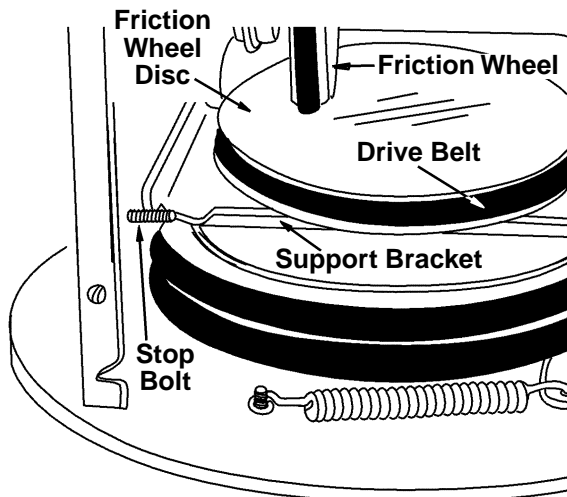

Figure 22
Lubricate the sprocket shaft with good all-weather multi-purpose light grease at least once a season or after every 25 hours of operation. Refer to figure 22.
7. Back out the stop bolt to allow the belts to slip between the bolt and auger pulley. See figure 22.
3. Back out the stop bolt until the support bracket rests on the auger pulley. See figure 22.
4. Slip belt between friction wheel and friction wheel disc. See figure 22. Remove and replace belt. Reassemble following the instructions in reverse order.
NOTE: The support bracket must rest on the stop bolt after the new belt has been assembled. See figure 22.